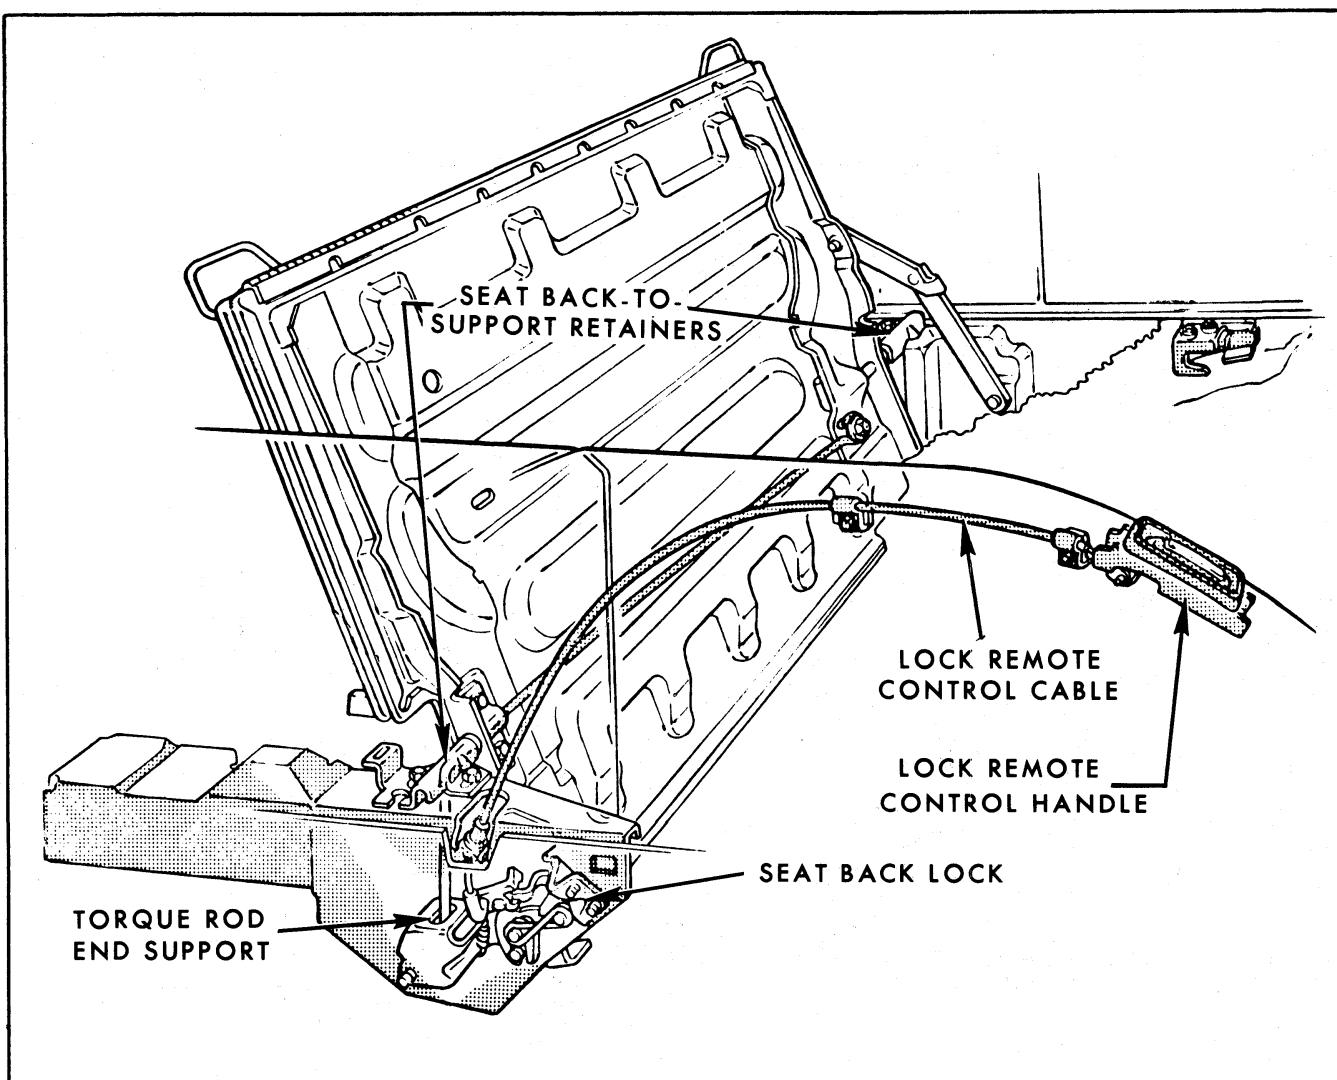
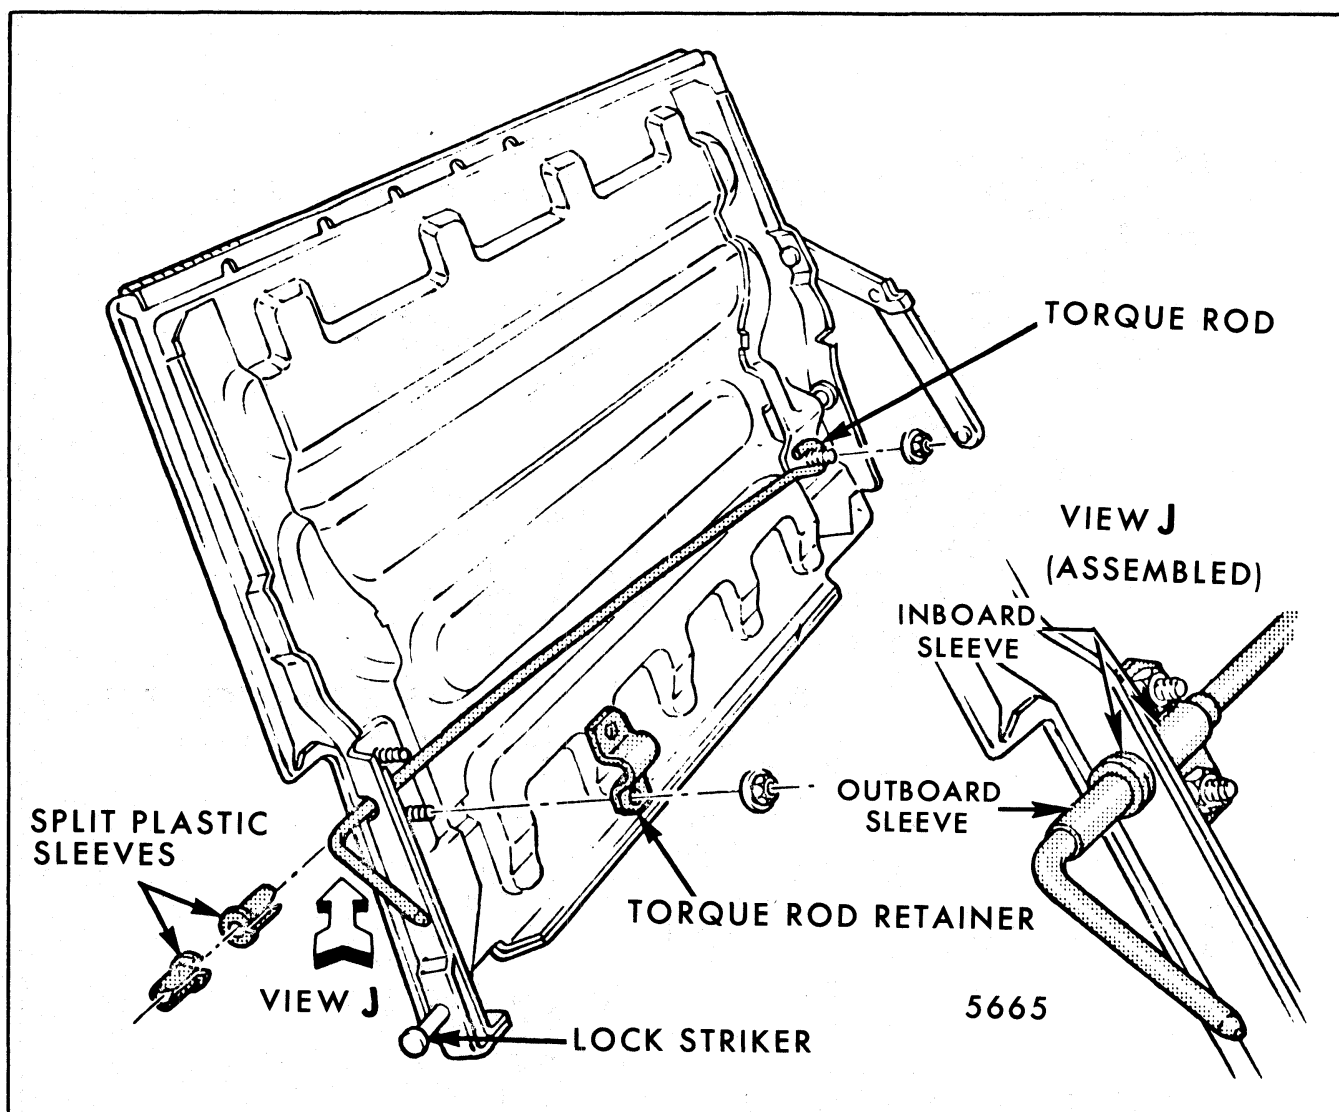

Fig. 9-103-Folding Third Seat Back Installation - "B" Body Three-Seat Station Wagons
Fig. 9-104-Folding Third Seat Back Torque Rod Installation - "B" Body Three-Seat Station Wagons
2. Lower seat back to load floor position; then remove retainer securing hinge pin at left side of seat and retainer securing torque rod at right side of seat (see Figs. 9-103 and 9-105).
- b. Remove torque rod retainer attaching bolts and bolt securing left end of torque rod (Fig. 9-104); then disengage split plastic sleeves (Fig. 9-104) from torque rod and remove torque rod.
rod as shown in Figure 9-104 and that when installing seat back torque rod, left end is engaged in slot in end support and lock striker is engaged with lock bolt (Figs. 9-103 and 9-105).
- a. Remove cable retaining clip rearward to handle (see Fig. 9-103).